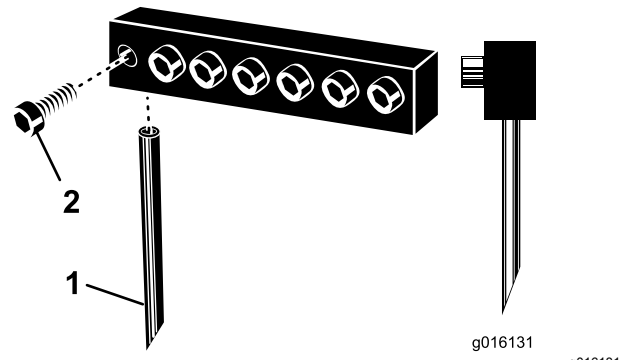

Figure 30
3. Loosen the clamping bolts and remove the previously used tines (Figure 30).
Note: Position hollow coring tines with the ejection slot to the rear. Position solid tines with the tine tip angle facing the machine (Figure 30).